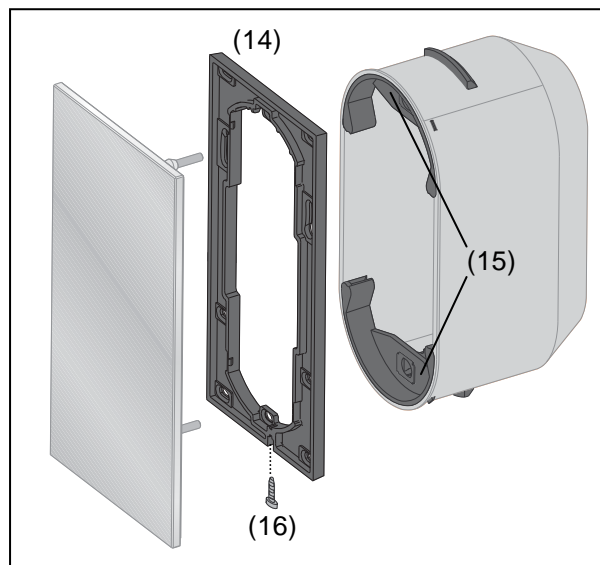

Figure 7
- If the adapter ring is to be screwed to the wall box, pry the clamp spring supports (Figure 7, 15) out of the wall box.
- Align the adapter ring (Figure 7, 14) and screw it to the wall box. The marking **TOP** on the inside of the adapter ring must be at the top. For fastening to the wall with screws, use the supplied set of screws and wall plugs.
- Tighten the screw (Figure 7, 16) at the bottom of the adapter ring. Use a Pozidrive-type Phillips screwdriver, size 0.
- Align the adapter ring (Figure 7, 14) and screw it to the wall box and the wall. The marking **TOP** on the inside of the adapter ring must be at the top. Use the supplied set of screws and wall plugs.
- If necessary remove the screw (Figure 7, 16) at the bottom of the adapter ring. Use a Pozidrive-type Phillips screwdriver, size 0.